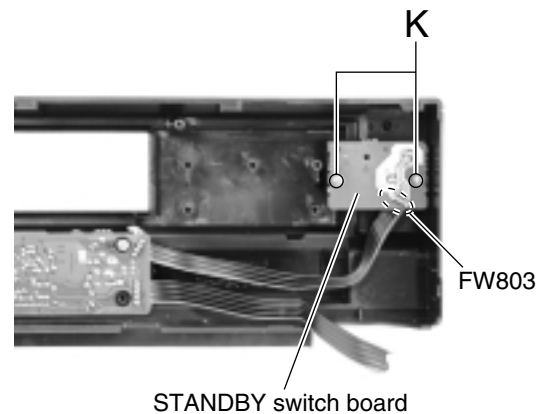

Fig.16
■ Removing the STANDBY switch board (See Fig.16)